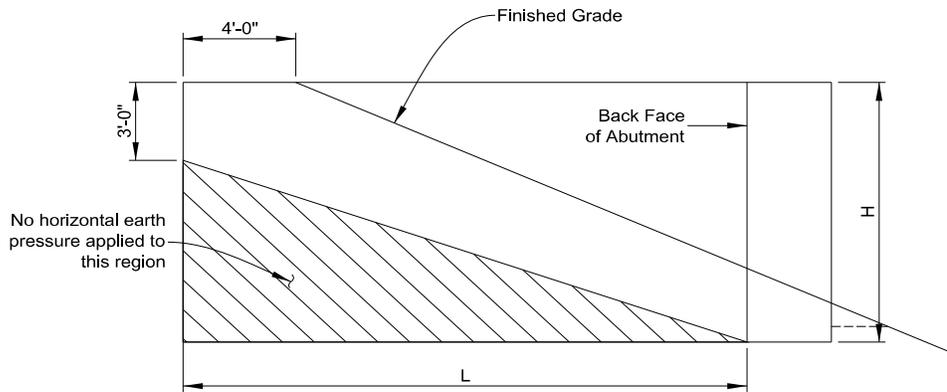

Figure 1 - Wingwall Elevation
- The 20 ft. length (measured as shown in Figures 1 & 2) used in Example 8 is the maximum length permitted for cantilevered wingwalls per BDM Section 11.3.6.1.
- Per BDM Section 11.3.6.2, a portion of the earth pressure acting on the buried part of the wingwall may be neglected, as shown in Figure 1 below. Equations are provided to assist in calculating the resultant wingwall force effects from the trapezoidal shape of earth pressure.